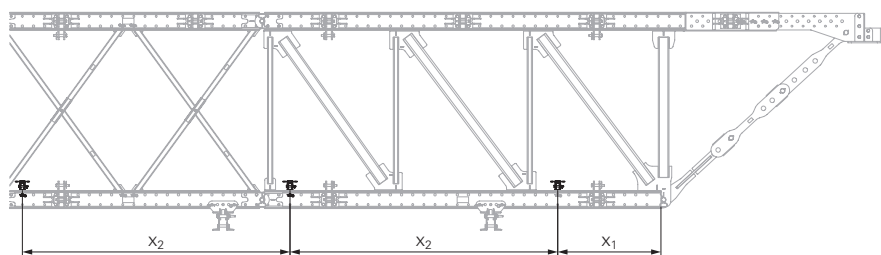

Fig. E1.03
3. Fit additional connections (**80**) at a spacing of  $x_2$ . (Fig. E1.03)